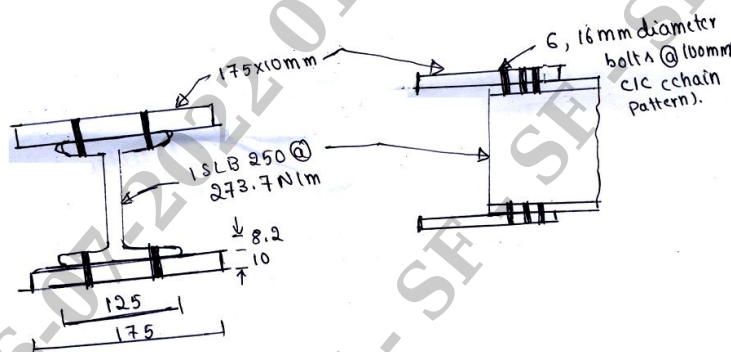

Fig. Q5 (b)
- b. A tension member ISLB 250@273.7 N/m is connected with 2 plates 175 mm wide and 10 mm thick with 2 lines of 16 mm diameter bolts in each flange. The end connections are as shown in Fig. Q5 (b). Determine